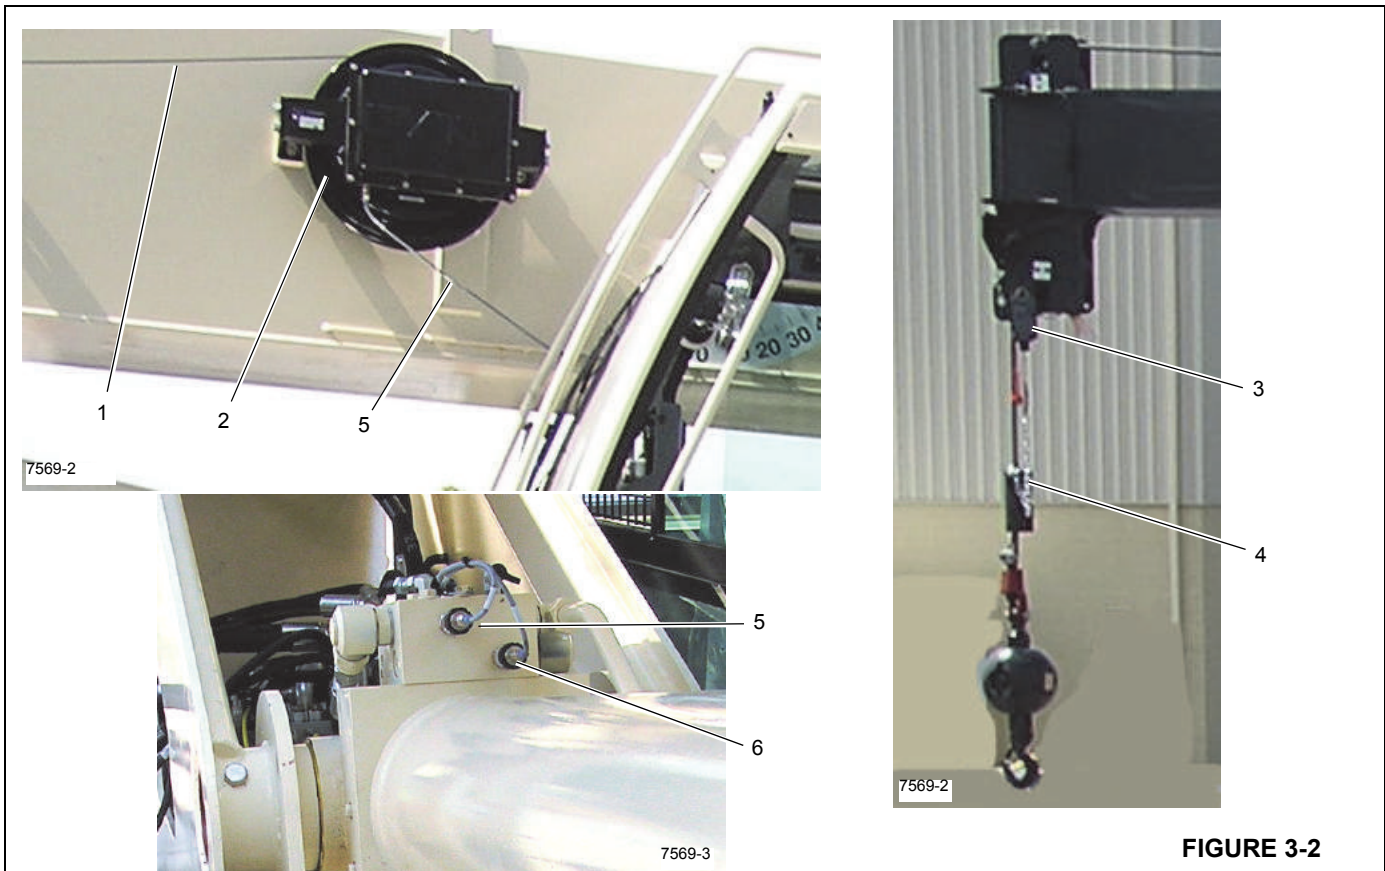

FIGURE 3-2
The boom A2B cable (1), Figure 3-2 runs from the A2B reel outside the boom to the A2B switch assembly (3). The A2B switch assembly cable is attached to the anti-two block weight.